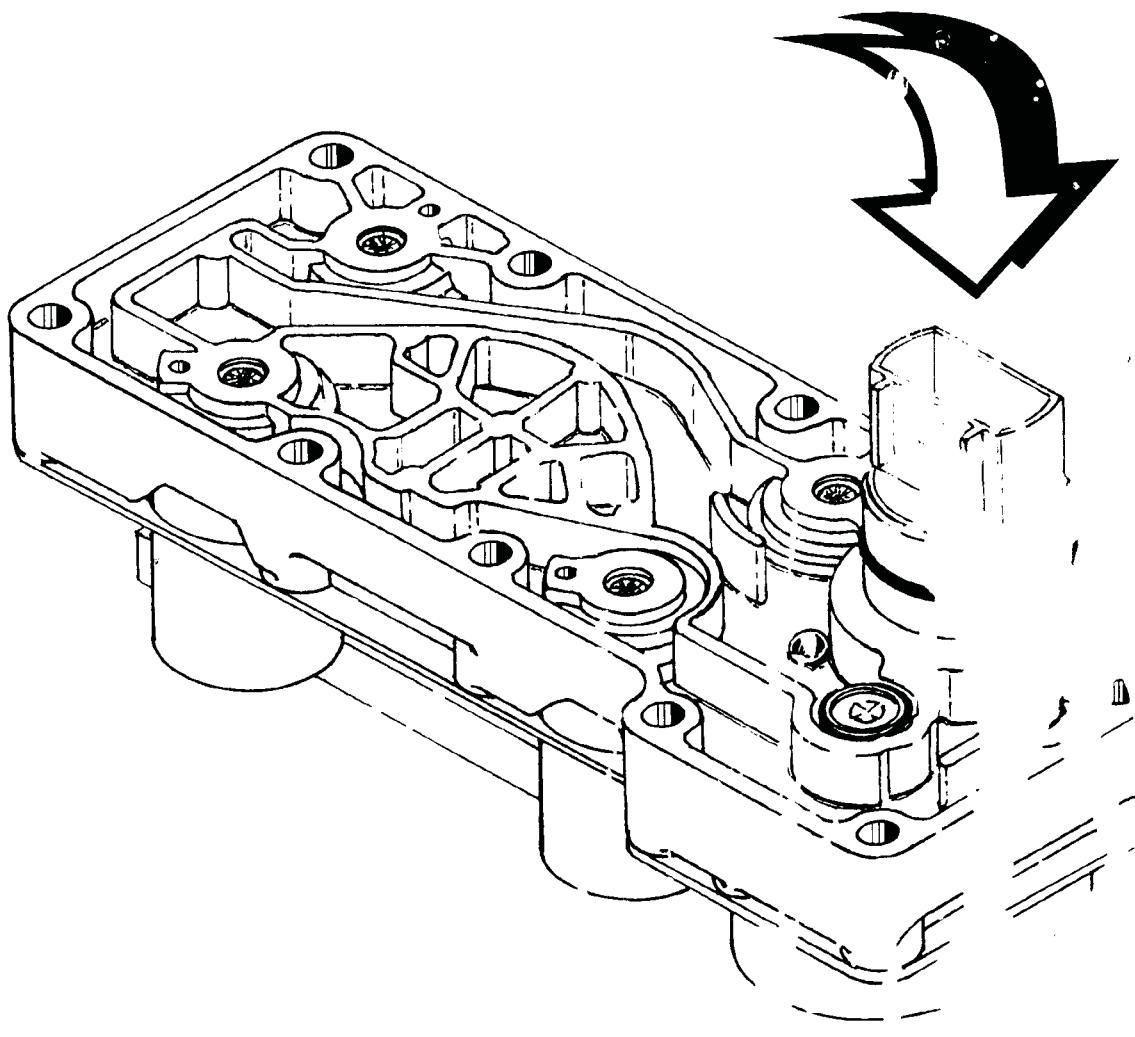
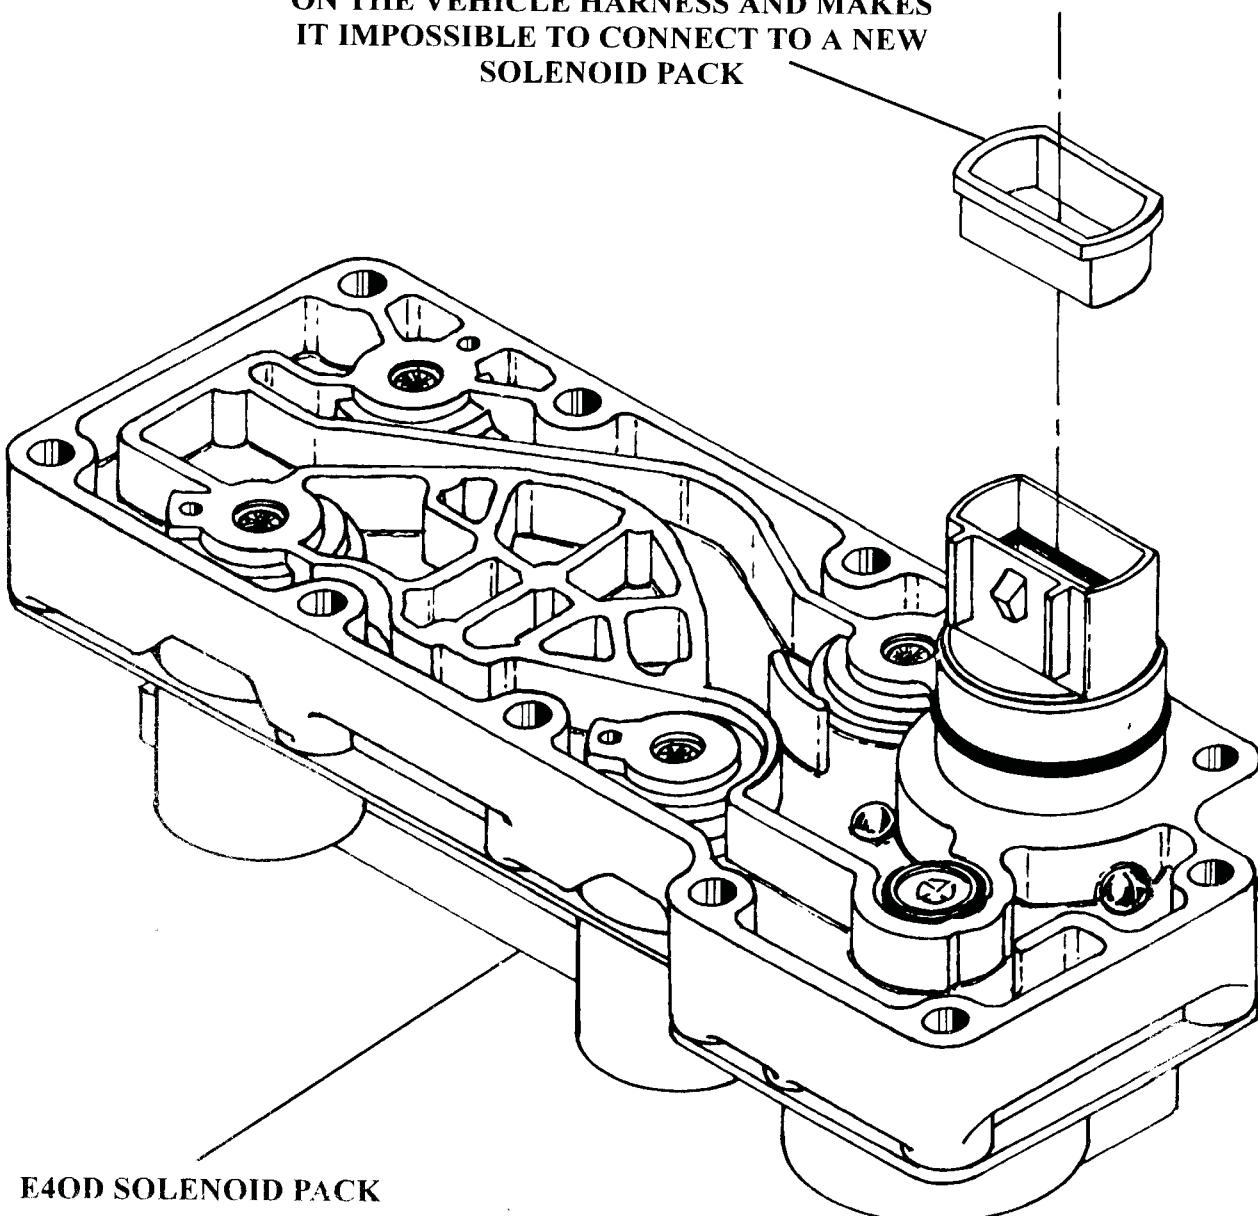

Figure 52
Figure 53
- (1) SOLENOID PACK - New design solenoid assembly case connector to accommodate the new design vehicle harness connector. Refer to Figure 52 for identification of the previous design and the new design solenoid assemblies.
**NOTE:** The plastic sleeve incorporated in the previous design solenoid pack has been eliminated on the new design solenoid pack (See Figures 52 and 53). This plastic sleeve will sometimes remain on the vehicle harness connector when it is disconnected. If a new solenoid pack is installed (which includes sleeve), it will be impossible to reconnect the vehicle harness to the solenoid pack until the old sleeve is removed from vehicle harness connector. Refer to Figure 53.